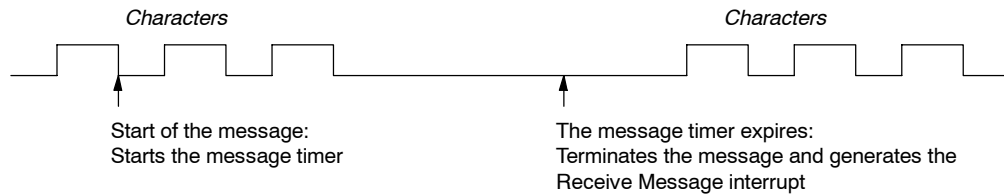

Figure 6-12 Using the Message Timer to Terminate the Receive Instruction
3. *Message timer:* The message timer terminates a message at a specified time after the start of the message. The message timer starts as soon as the start condition(s) for the receive message function have been met. The message timer expires when the number of milliseconds specified in SMW92 or SMW192 have passed. See Figure 6-12.